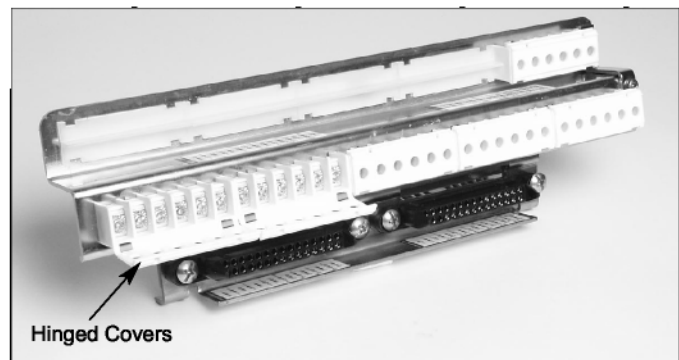

Figure 5-17 Optional Terminal Block
(2) **Optional Screw Type Terminal Block** - For those customers preferring to wire to a terminal block, an optional screw type terminal block is available for terminating the secondary wiring leaving the female secondary disconnect block. The terminal block is available in kit form (Figure 5-17).